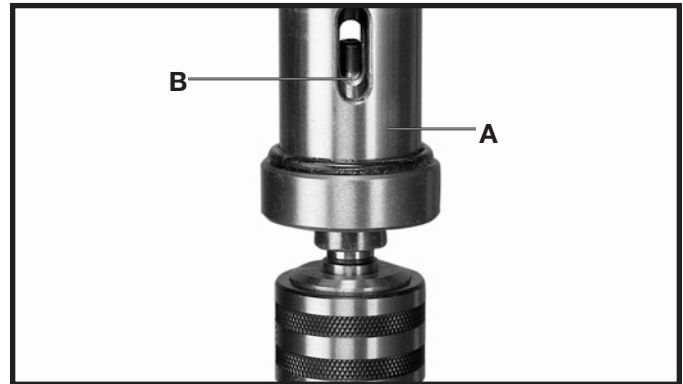

Fig. 30
1. Align the slot in the quill (A) Fig. 30, with the slot in the spindle (B).